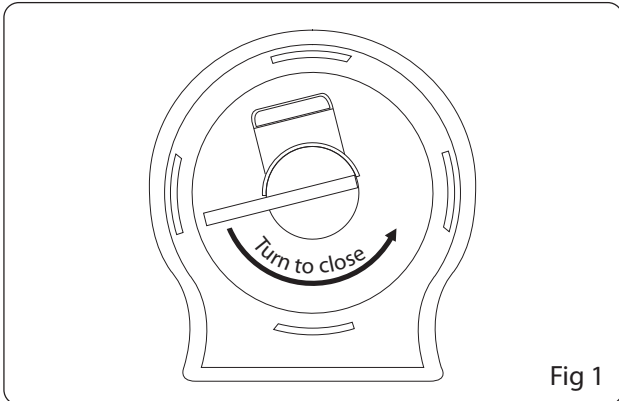
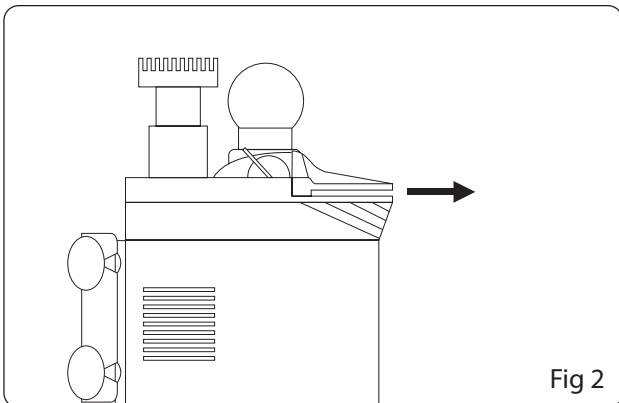
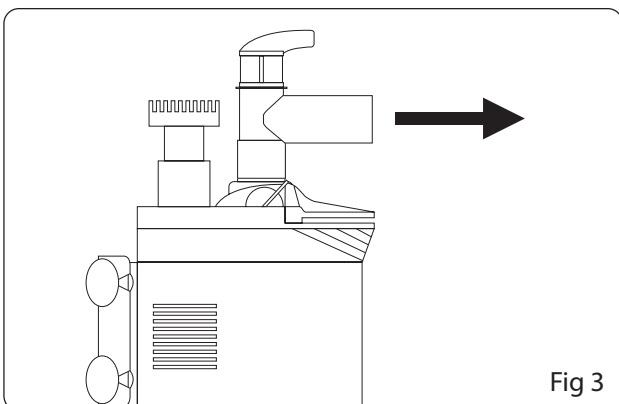
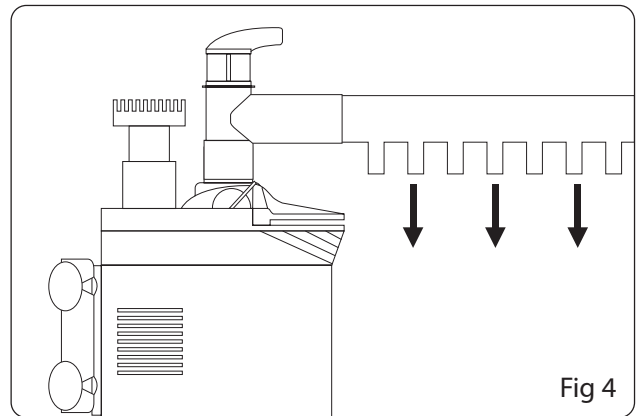

Fig 1
Fig 2
Fig 3
Fig 4
1. Decide on which outlet option to use. The 320/320L models do not have the option of closing the base outlet but the 700/700L models have a flow control on the base outlet (fig 1). In all models the main outlet can use the duck bill for gentle flow (fig 2), the straight outlet for more powerful stream flow (fig 3) or the spray bar for more dispersed flow (fig 4).